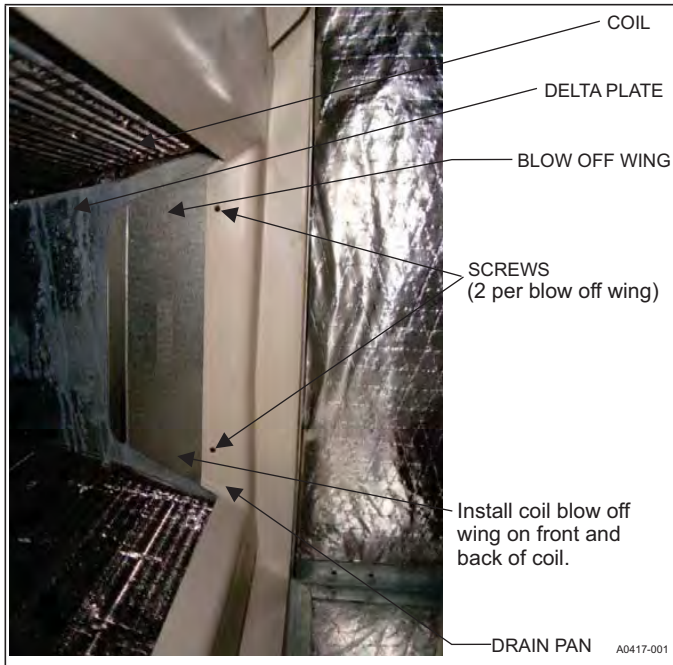

FIGURE 6: Coil Blow Off Wing Installation
8. For horizontal right applications, the front and back coil blow off wings must be installed (blow off wings shipped in loose parts bag). Locate 4 screws securing coil delta plates to coil drain pan. Loosen the screws. Slide each coil blow off wing between the drain pan and the coil delta plate. Tighten screws to secure coil blow off wings. Refer to Figure 6.